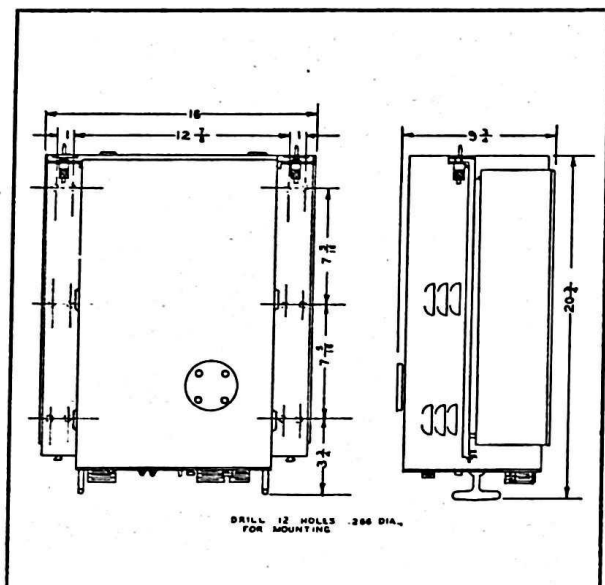

Figure 2—Radio Modulator and Transmitter BC-925, Mounting Dimensions
a. MOUNTINGS FT-442-A AND FT-462-A.—Installation information is supplied in figure 2. Since Radio Modulator and Transmitter BC-925 is mounted on these units, choose a location which will place them in a normally horizontal plane, and which will allow clear space in front of the transmitter unit so it may be removed from its case. Place the radio modulator and transmitter on these mountings and lock the case to the mounts by means of the wing-type fasteners.